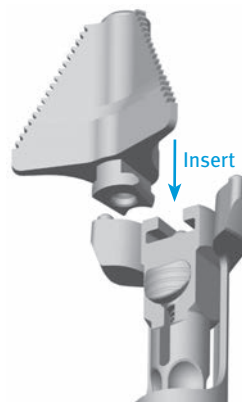
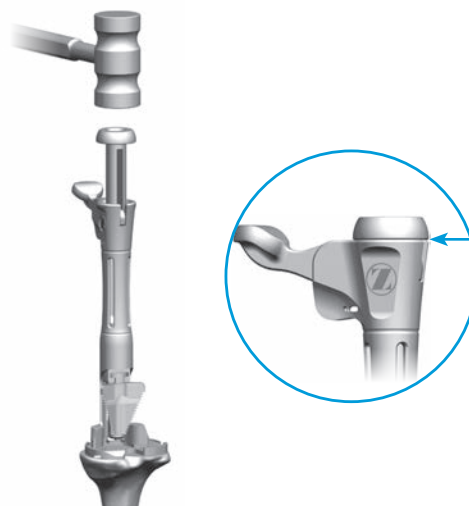
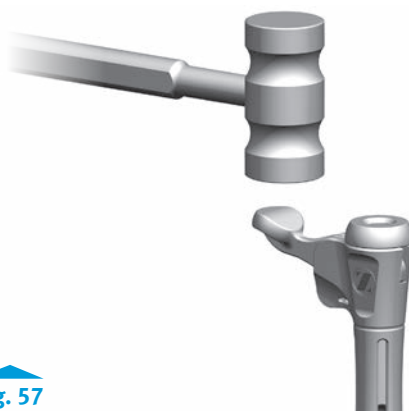

Fig. 55
Fig. 56
Fig. 57
- Insert the correct-sized Cemented Tibial Broach into the Cemented Tibial Broach Inserter/Extractor Handle, (Fig. 55). Retract the impaction head until it locks in the fully retracted position, which will facilitate placement on the Cemented Tibial Sizing Plate. After seating the Cemented Tibial Broach Inserter/Extractor Handle on the Cemented Tibial Sizing Plate, tap the impaction head once to seat the Cemented Tibial Broach. Impact the Cemented Tibial Broach Inserter/Extractor Handle assembly with care to prevent fracture of the tibia (Fig. 56). Impact until the impaction head bottoms out on the Cemented Tibial Broach Inserter/Extractor Handle stop (Fig. 56 inset). While holding the Cemented Tibial Broach Inserter/Extractor Handle, impact the extraction button to remove the Cemented Tibial Broach from the bone (Fig 57). Avoid dislodging the Cemented Tibial Sizing Plate when removing the Cemented Tibial Broach Inserter/Extractor Handle.